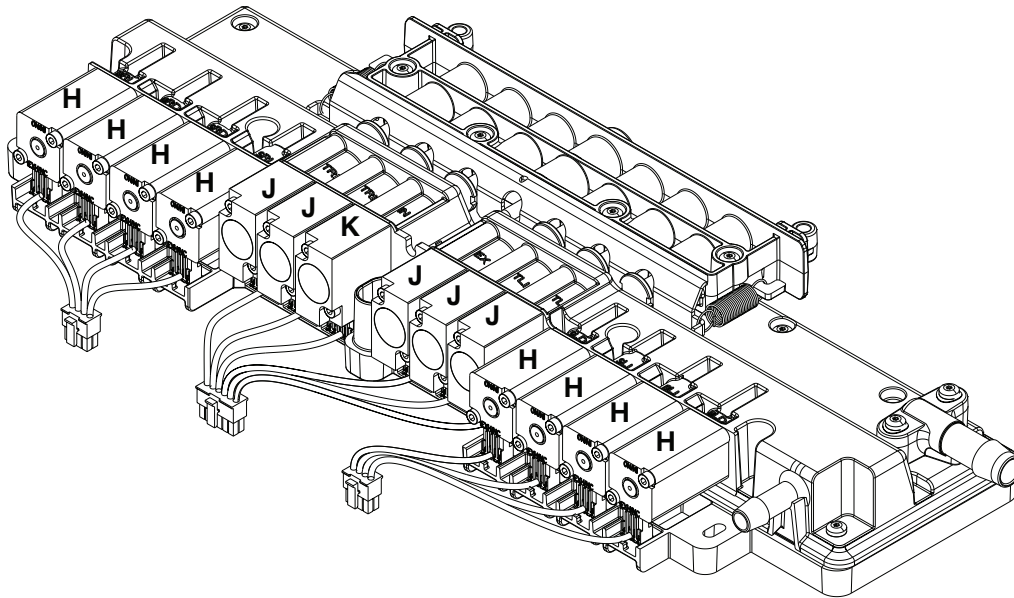

Figure 12 – Solenoid valve
2. Using a torque driver, remove the two screws that secure the solenoid valve (H, J, or K) to the manifold assembly (Figure 12). Save the screws.